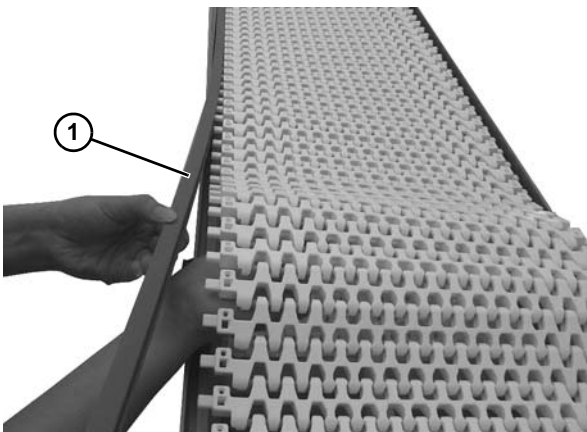

Figure 21
11. Lift belt off of frame and insert each edge strip (Figure 21, item 1) into side tabs of belt. Set belt and edge strips back into frame.